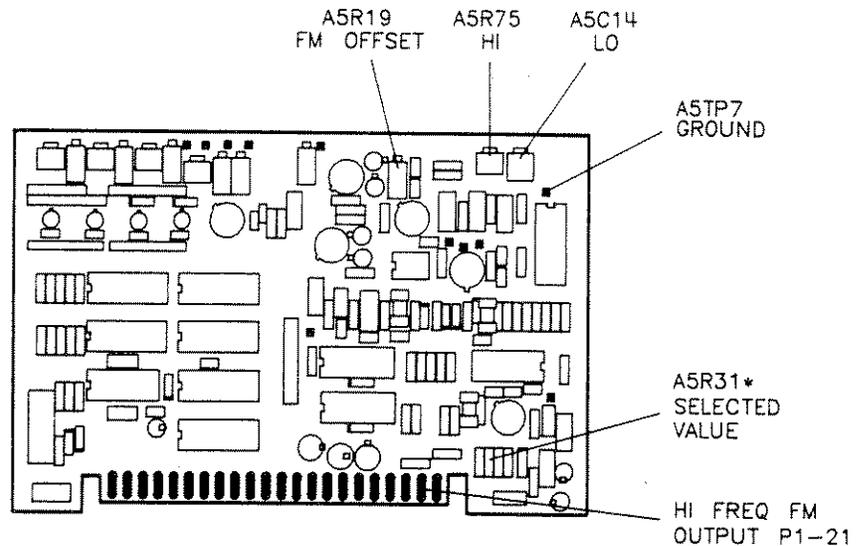

Figure 5-49. FM Driver Adjustment Location
3. Turn on the sweep oscillator AC power and connect DVM HI to the A5 board connector pin 21 and connect DVM LO to A5TP7 (ground). Adjust A5R19 (FM OFFSET) for 0.00 ± 0.0001 V. See figure 5-49.